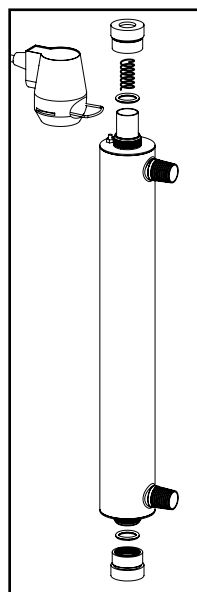

FIGURE 3A
- c) Remove aluminum gland nuts from both ends of the reactor chamber (Figure 3A), checking for the free floating spring inside sleeve at the opposite end to the lamp connection (do not allow quartz sleeve to fall).
- d) Carefully remove o-rings from the quartz sleeve (Figure 3A). As the o-ring may tend to adhere to the quartz sleeve, it is recommended to replace the o-rings annually. Remove quartz sleeve carefully from chamber.